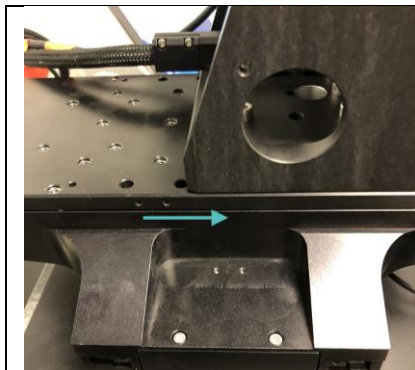

Fig 4. Move secondary stage into mid-travel position.
- Move the secondary stage to its mid-travel position (Figs 4 and 5).